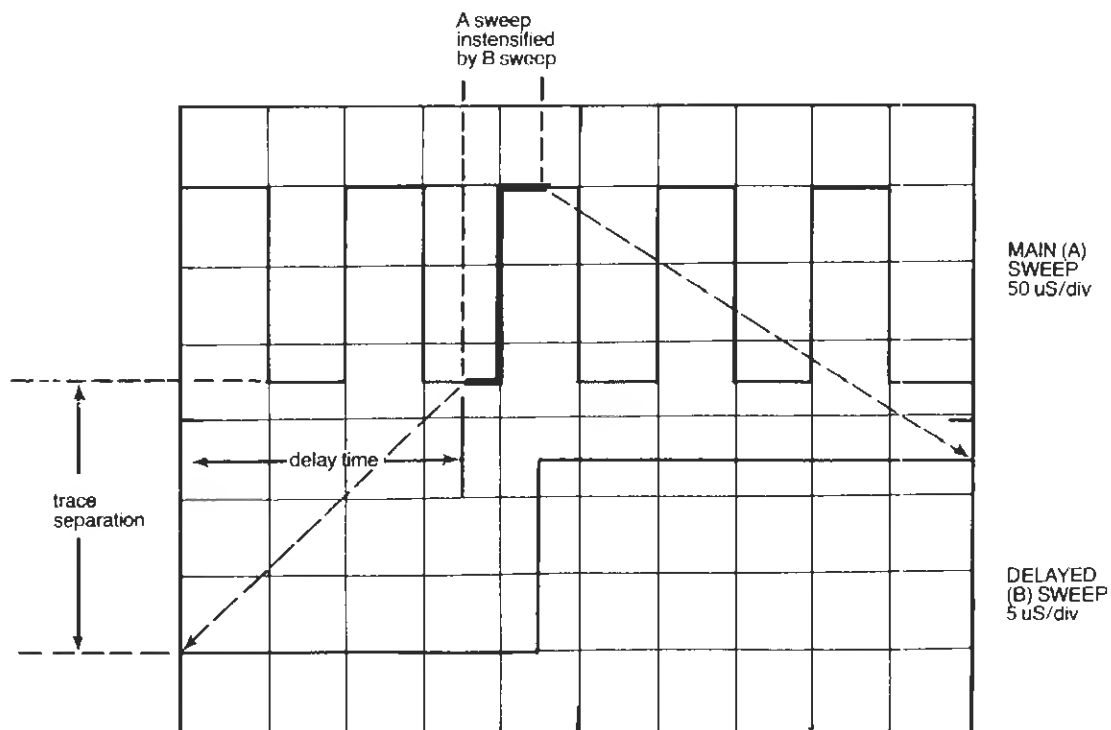

Figure 2-12. Delayed sweep display of one vertical channel
1. Adjust the VOLTS/DIV switch(es) (11) so the trace height(s) does not exceed 4 screen divisions if one vertical channel is used, or 2 screen divisions if both vertical channels are used. This is simply to ensure that there is room for all traces later.
3. Make sure the TRIG'D pushbutton (27) is out, the INTEN control (2) is turned up for a bright display, and the B TIME/DIV switch (21) is set to a faster sweep than is the A TIME/DIV switch.
4. Press the B HOR DISP pushbutton (26) while holding in the A pushbutton (i.e., **both** the A and B HOR DISP pushbuttons must be locked in the recessed position).
5. Use the TRACE SEP control (25) to move the delayed (B) trace(s) to the vacant area(s) above or below the main (A) timebase trace(s).
6. The section of the main (A) timebase trace(s) corresponding to the B sweep time will be brighter than the rest of the main timebase trace(s), as shown in Figure 2-12. Adjust the INTEN control if necessary for a proper display.